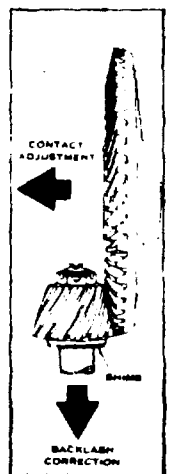

Figure 10 - Tooth Contact
d. Note the nature of tooth contact as shown In sketches of figure 10. Make necessary adjustments to obtain correct tooth contact as shown In sketch "A "